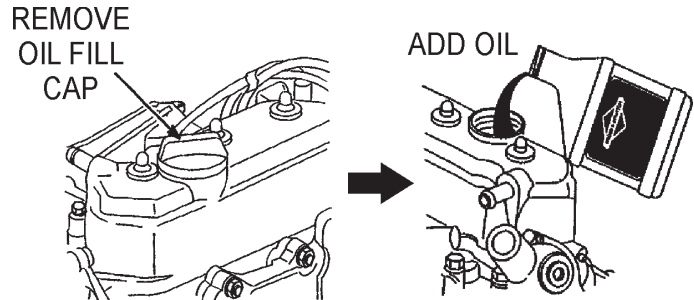

Figure 9. Engine Oil Filler Port
4. If the oil level is low, remove the oil filler cap (Figure 9) and fill to the safe operating level (F) as indicated by the dipstick. Pour oil slowly. Fill with recommended type oil as listed in Table 4. Maximum oil capacity is 3.5 quarts (3.3 liters).